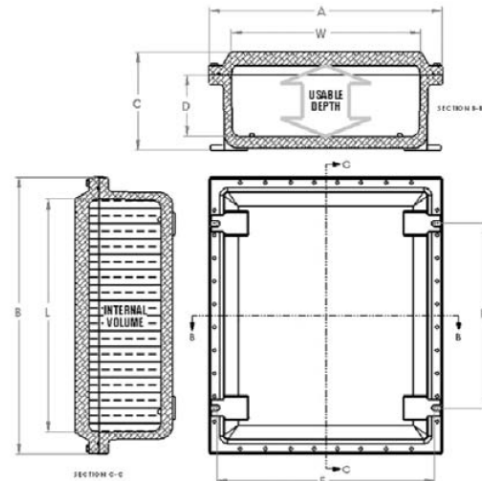

Figure 1
1. Select a mounting location that will provide suitable strength and rigidity for supporting all contained wiring and control devices. Figure 1 shows the mounting dimensions.